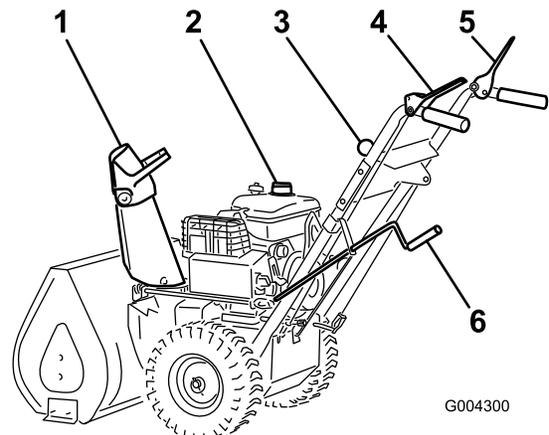

Figure 13
3. Release the auger/impeller drive control lever and the traction control lever (Figure 13).
11. Shift the speed selector lever (Figure 13) into first gear, squeeze the traction control lever to the handgrip, and then release the traction control lever. If the snowthrower moves forward before engaging the traction drive control lever or after releasing the lever, see Adjusting the Traction Drive.